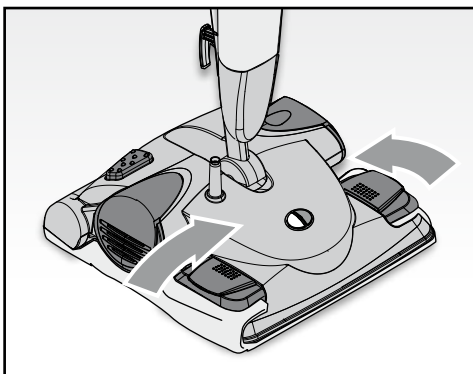

Fig. 8
- open the two cloth fastener clips (P), insert the sides of the cloth (C) and move the clips back down into place (Fig. 8).